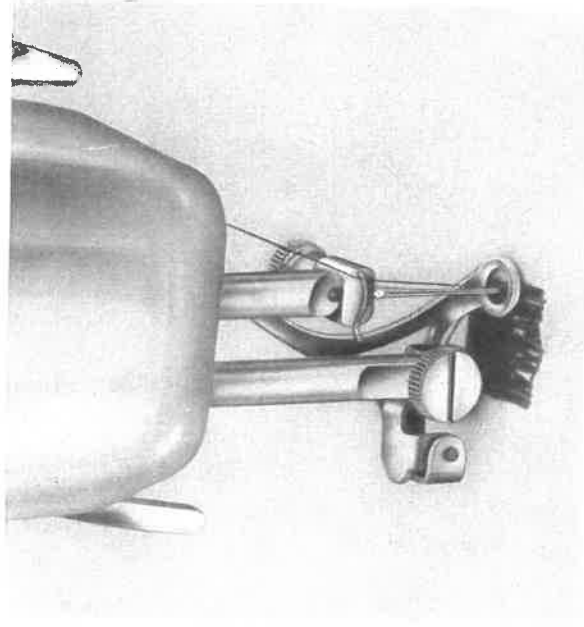

Fig. 19
b) Fit the special darning foot to the presser bar (Fig. 19).